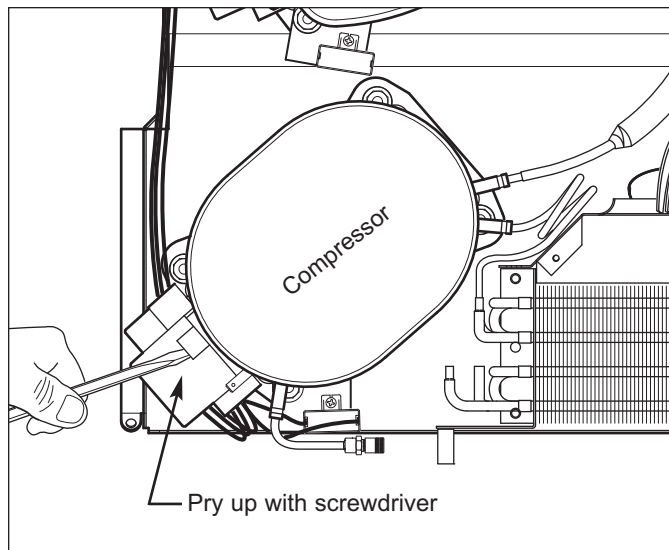

Figure 7-49. Removing Compressor Electrical Cap
2. Disconnect electrical leads from compressor. (See Figure 7-49)